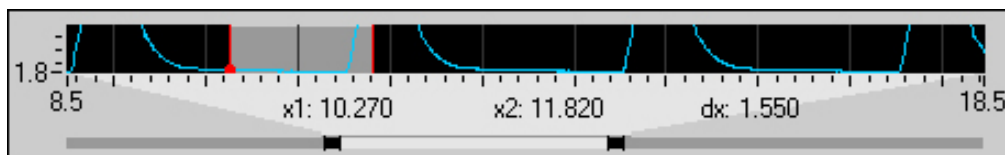

Figure 4-5. DataLab 2000 Data Scrollbar
- **Scroll Bars**—Use the scroll bar below the graphs and shown in Figure 4-5 to change the scale of the graphs and to scroll throughout the data file. You can change the amount of time you are viewing in the display by clicking and dragging the ends of the scroll bar, or scroll to the right or left in time by clicking and dragging the middle of the scroll bar.
- **Scroll Bars**—Use the vertical scrollbar to the left of each graph to change the Y scale of the graphs. You can change the amount of data you are viewing in the display by clicking and dragging the ends of the scroll bar, or scroll up and down by clicking and dragging the middle of the scroll bar. The vertical scroll bar behaves similarly to the horizontal scroll bar shown in Figure 4-5.